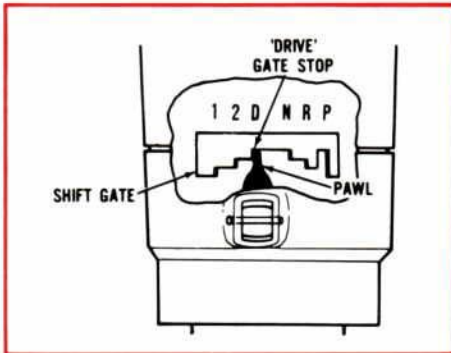

Figure 22—Note the Correct Position of the Shift Selector Pawl Nesting Against the "Drive" Gate Stop.
- Note Figure 22. In Drive position, the shift selector must be in its appropriate gate position with the selector pawl against the gate stop as indicated.